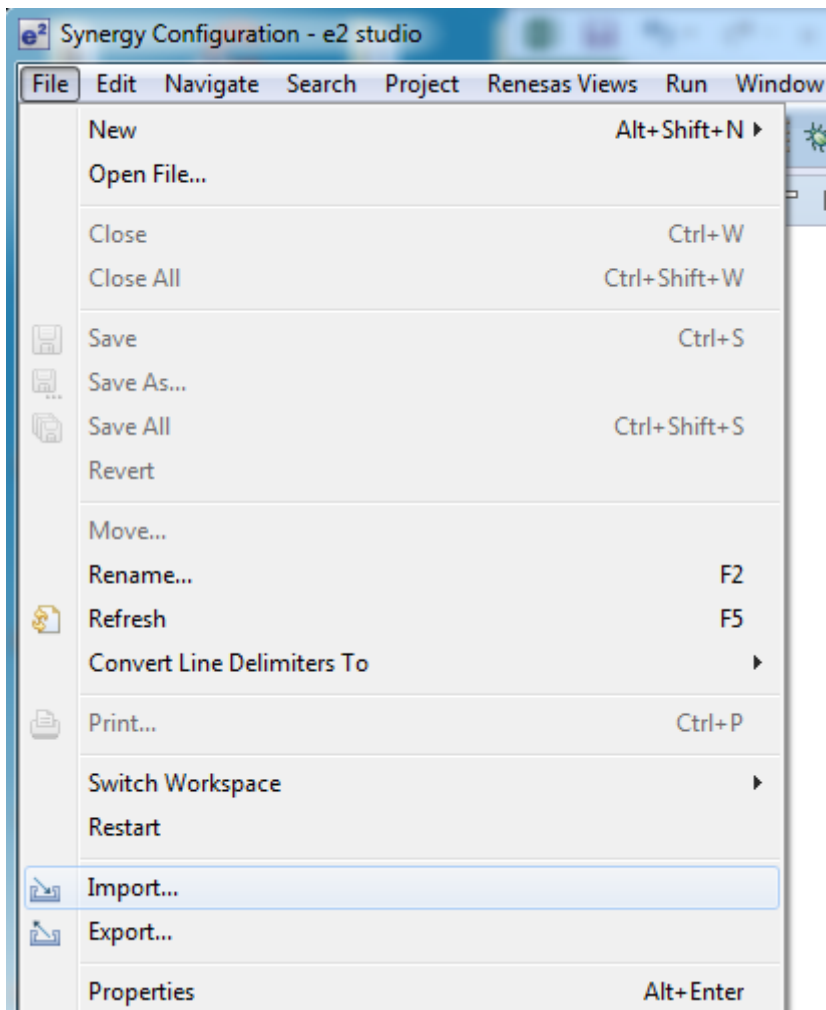

Figure 2.5 File drop-down menu
- 4. Click **Import** on the **File** menu, in the menu bar, as shown in Figure 2.5.